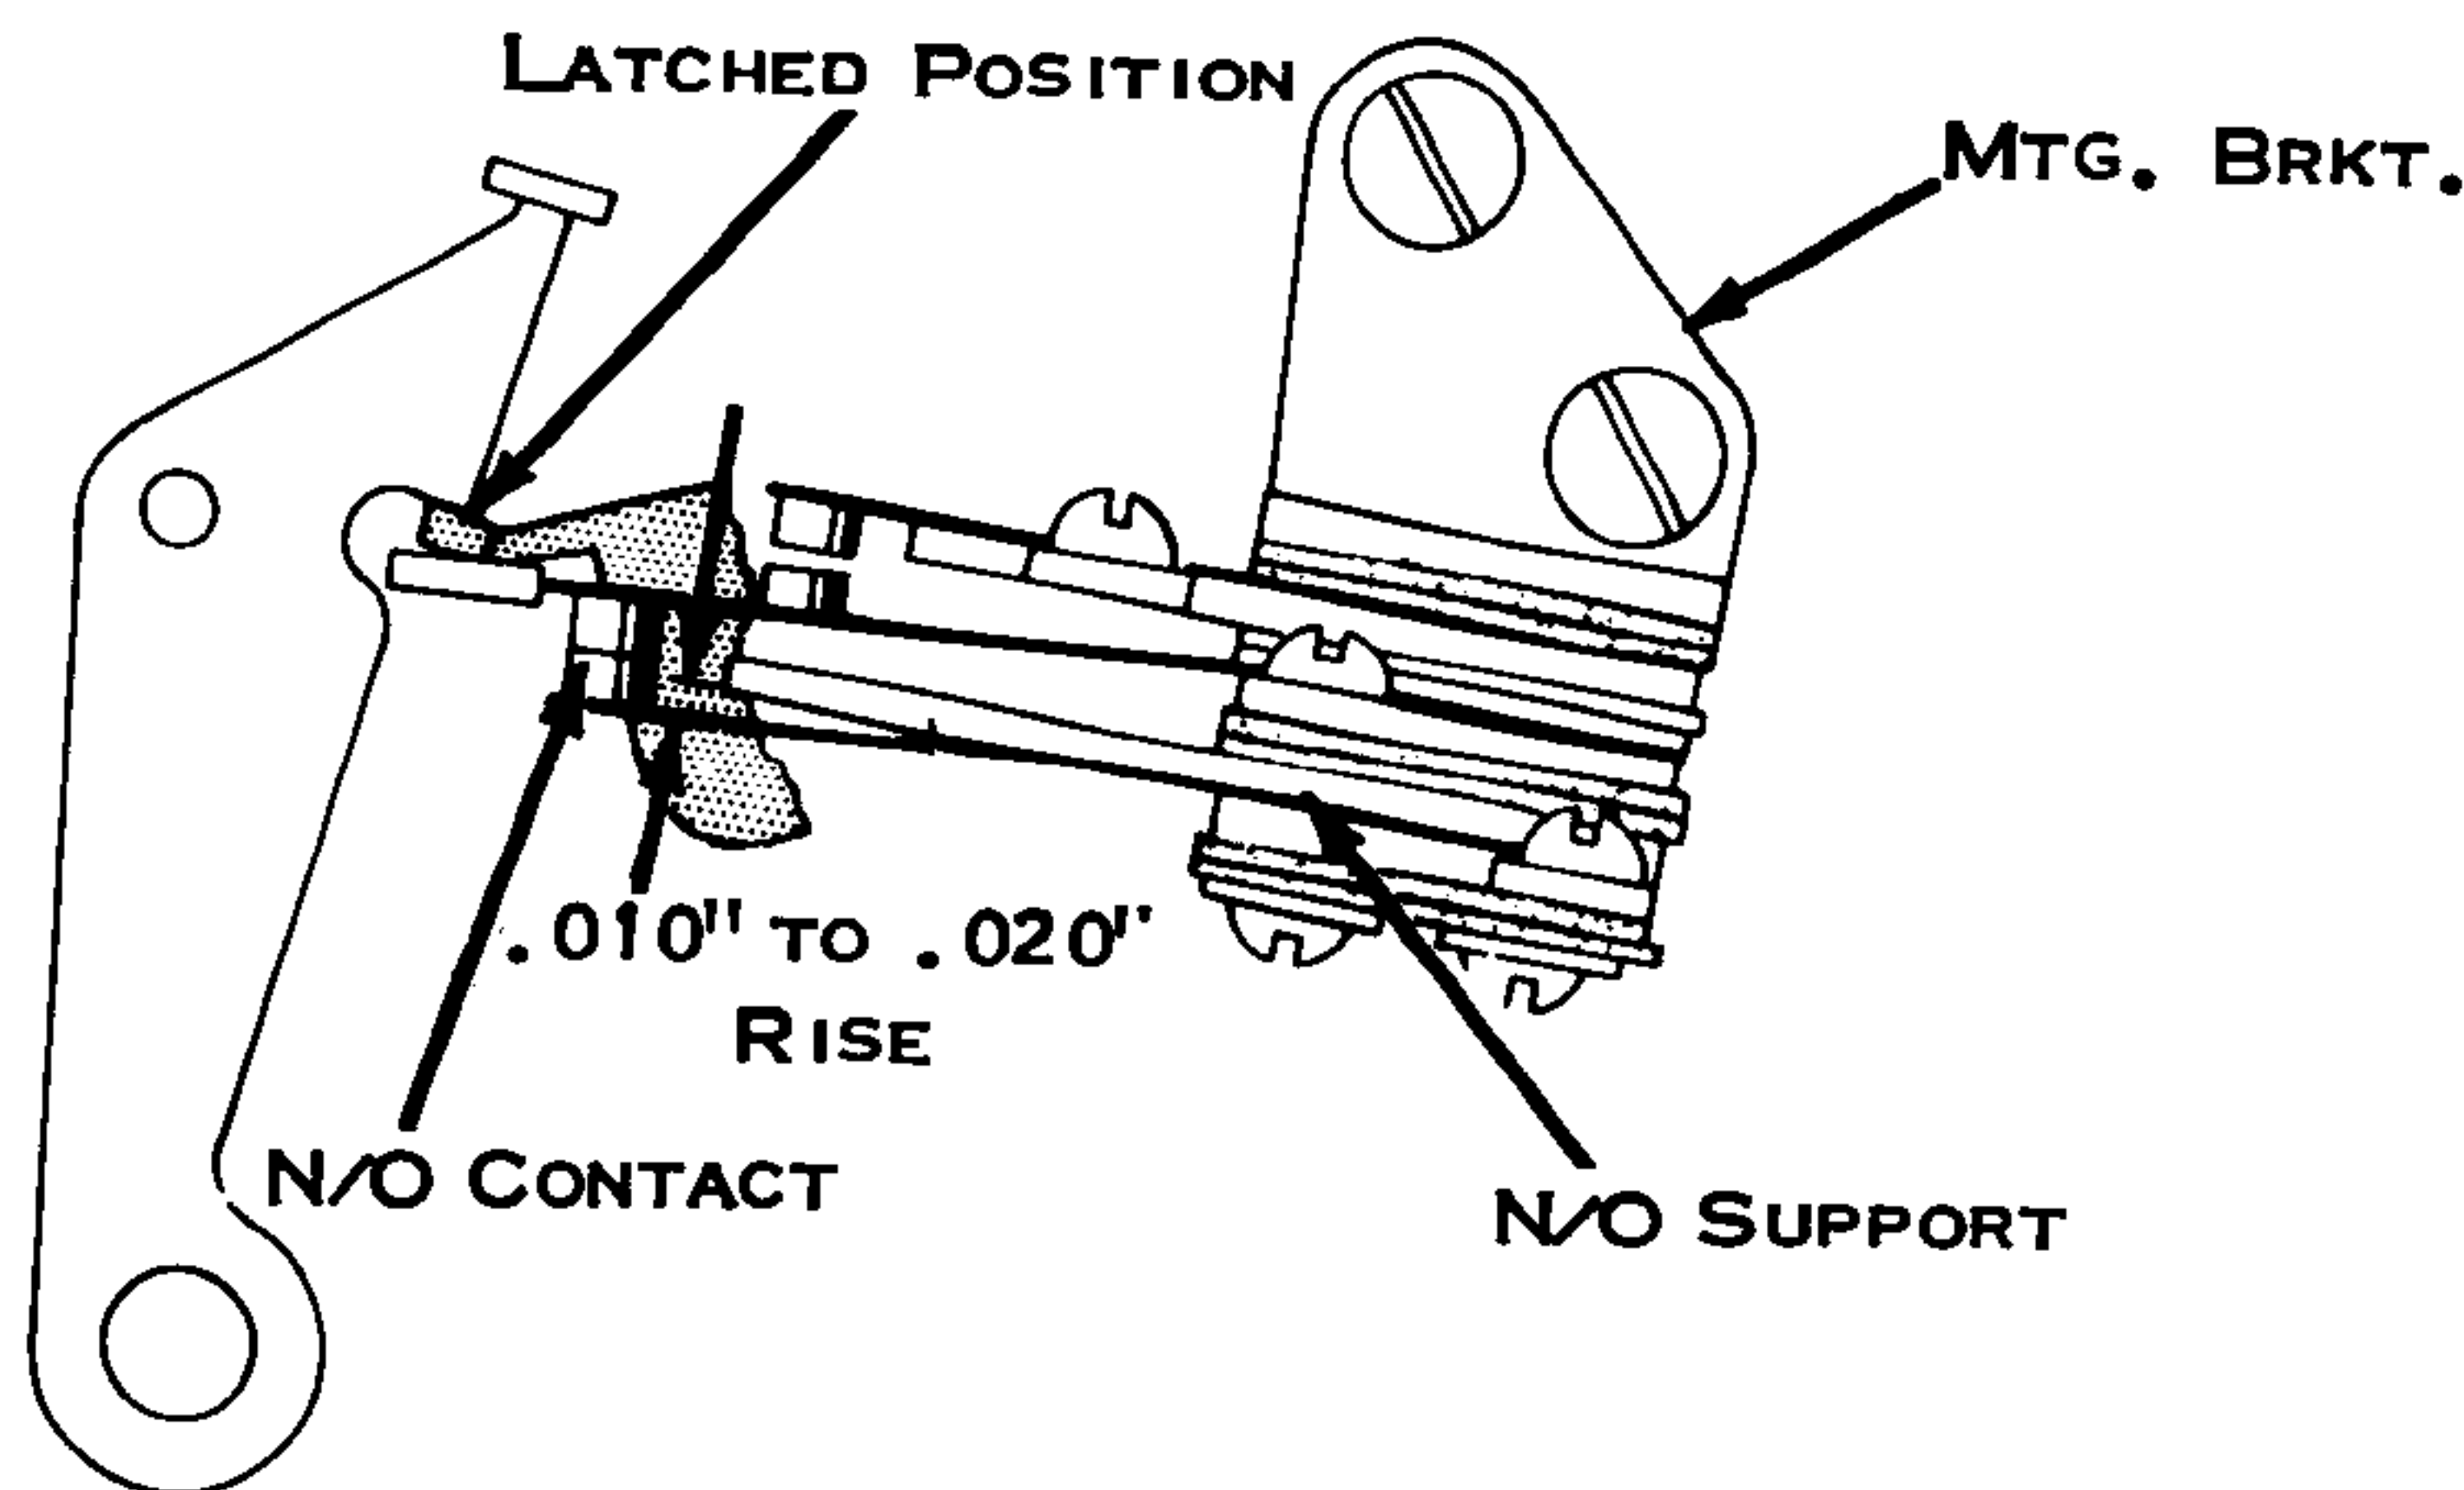

Figure 185B. Carrier Return Interlock Active
- With the carrier return clutch latched, position the mounting bracket so that the N/O contact rises .010" to .020" from the N/O support (Fig. 185B).